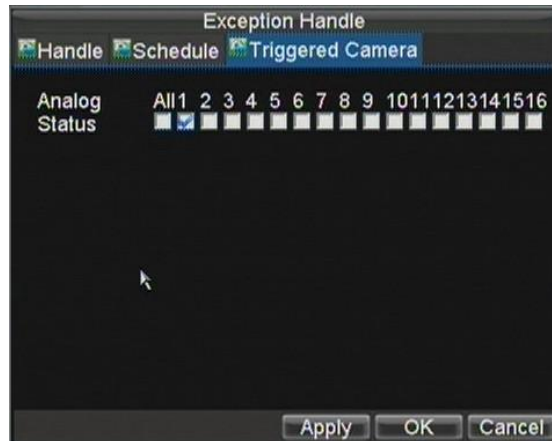

Figure 4. Exception Handle Menu
8. Click the Handle button to open the Exception Handle menu, shown in Figure 4. Select the Triggered Camera tab